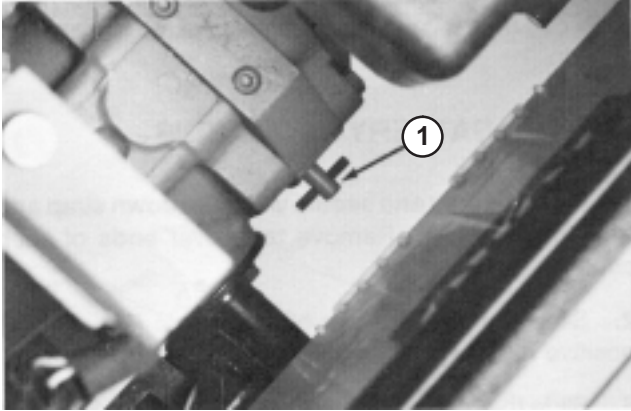

Figure 20
1. Reach under traction unit and rotate by-pass valve (Fig. 20) 1/2 to 1 turn counterclockwise. Opening the valve opens an internal passage in the transmission, thereby by-passing transmission oil. Because fluid is by-passed, traction unit can be moved without damaging the transmission.